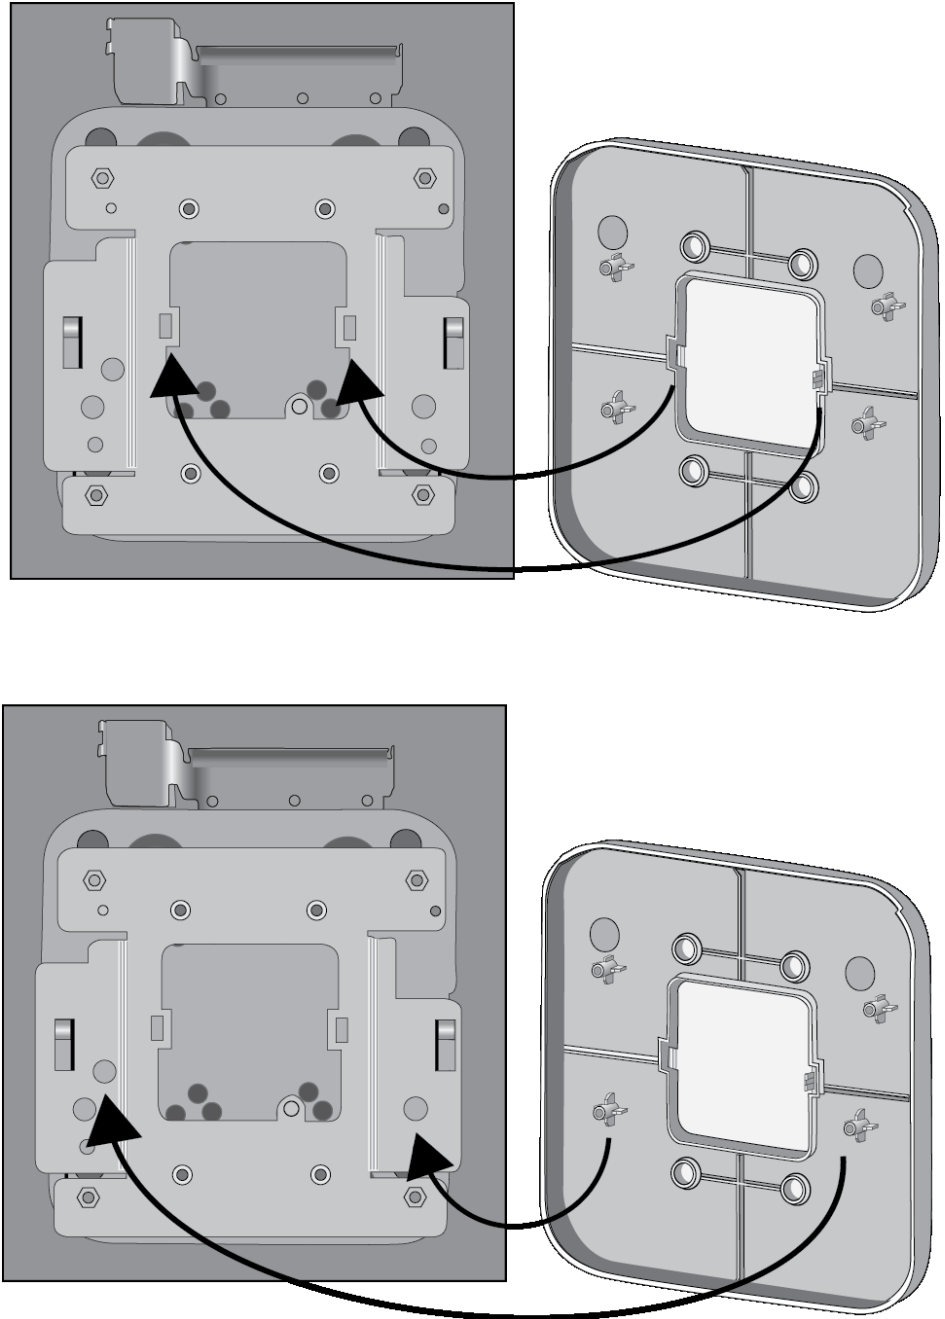

Figure 12. Matching the Cover to the Base Plate
- ❑ The hooks on the inside of the cover fit into the hook openings in the base plate. Refer to Figure 12.
- ❑ The two standoffs in Figure 12 fit into the indicated holes in the base plate.